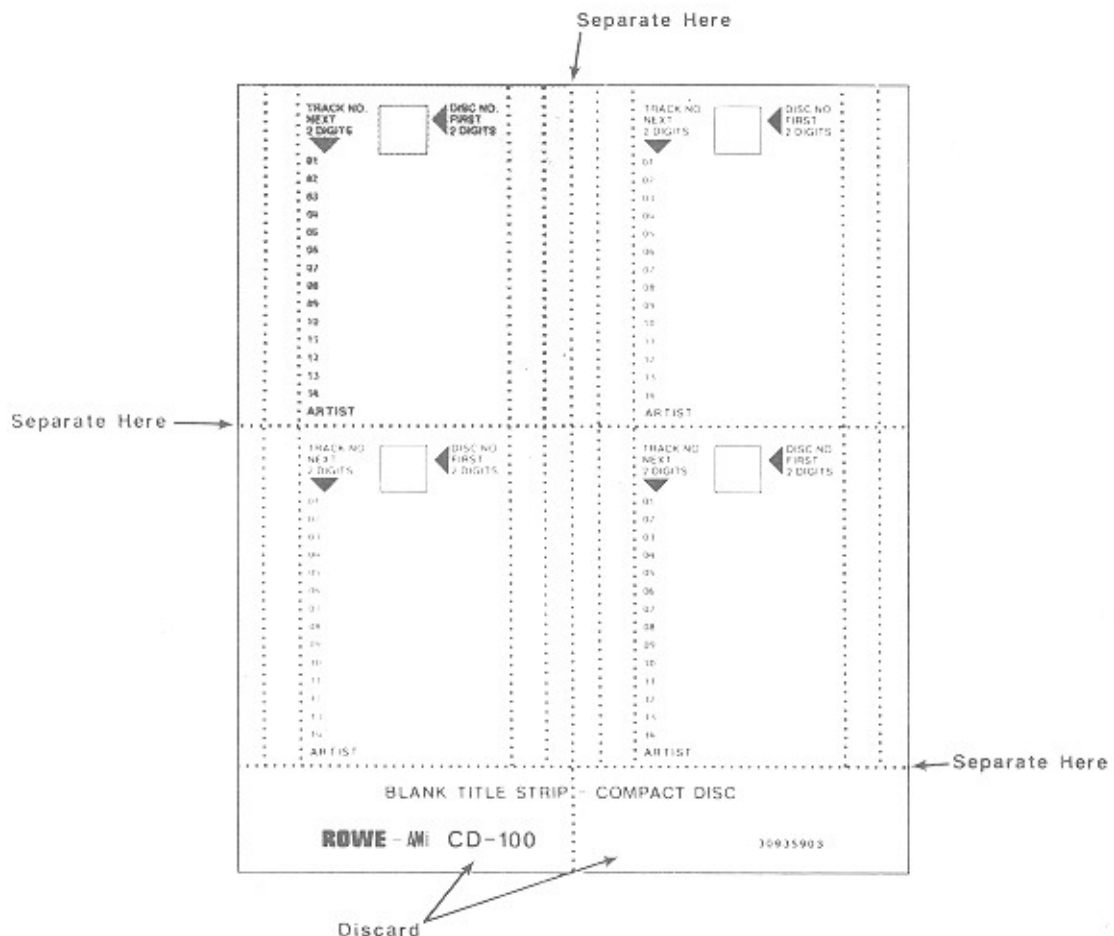

Figure 3-3. Blank Title Sheet
2. Tear each title strip from the title sheet so that the two perforated columns appear on the side of the title strip (the shaded portion of the title strip in *figure 3-3* represents a title strip that has been removed from the title sheet).